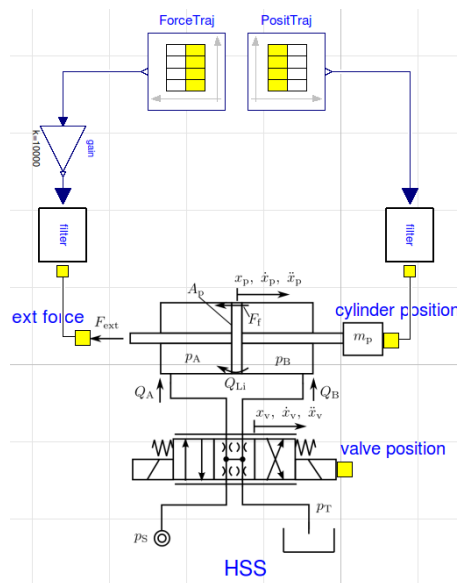

Figure 1: Dymola backward simulation of hydraulic servo system
**Figure 1** shows the simulation model of a simple hydraulic drive. For simulation of such a system, usually the valve input signal has to be provided by a control. Using the backward simulation approach with Modelica, the valve input can be calculated from boundary conditions, which are the cylinder motion and force inputs.